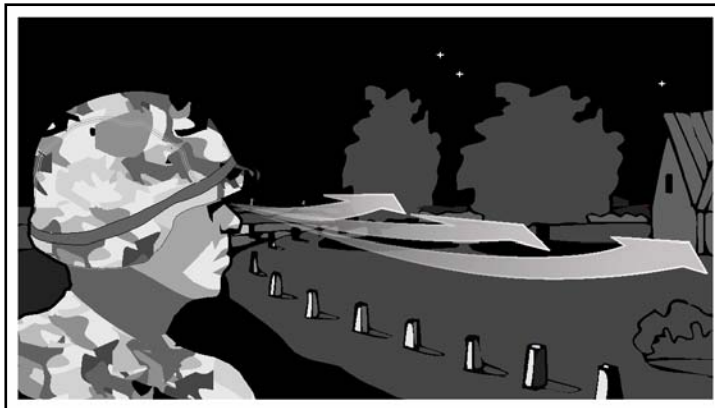

Figure 071-331-0804-3. Night vision search.
- (1) Stay in a secure, darkened area for 30 minutes such as an assembly area or initial rally point.
- (2) Stay in a red-lighted area for 20 minutes, followed by 10 minutes in darkness.
- (3) Wear red goggles for 20 minutes, followed by 10 minutes in darkness.
- b. Scan search areas at night by moving your eyes in short, quick, irregular movements (figure 071-331-0804-3).